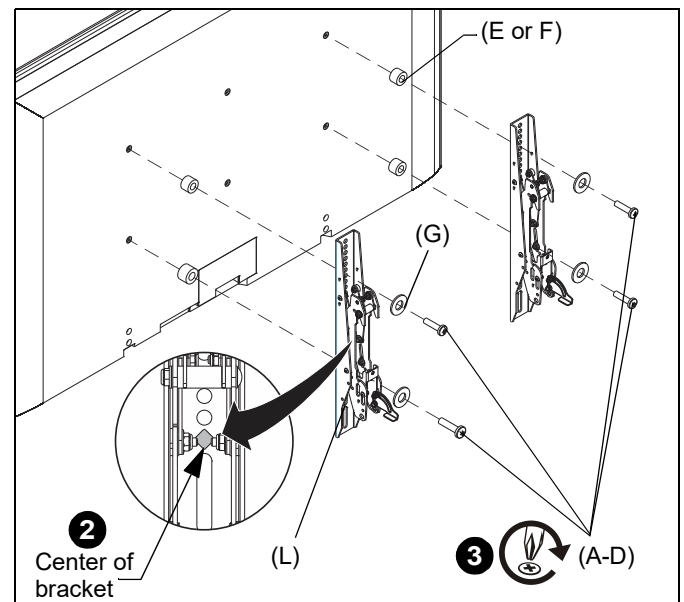

Figure 16
2. Align the center of the interface bracket (L) with center of screen. (See Figure 16)
3. Select correct screws, spacers (if necessary) and washers from the hardware bag (A-G) and attach brackets (L) to back of screen. (See Figure 16)